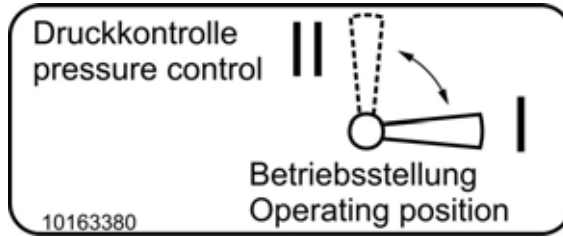
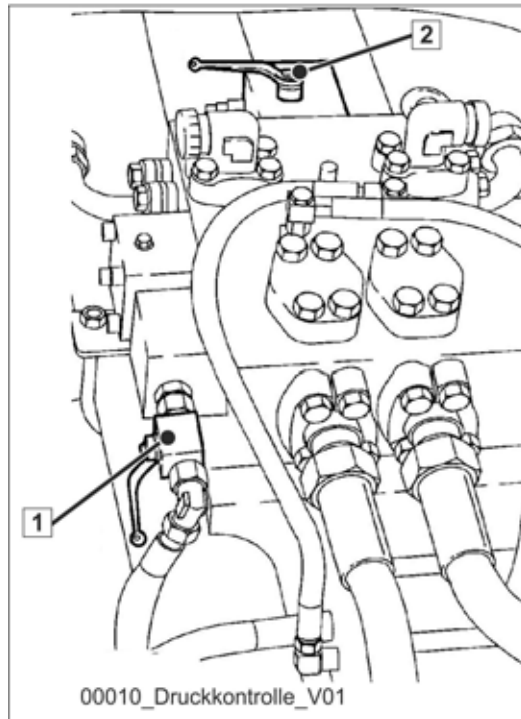

Fig. 288
Fig. 289
- Close the ball valve (1) (**Fig. 289**).
- For machines with MPS, set the ball valve (2) (**Fig. 289**) to position (II): Pressure check (**Fig. 288**).
Working operation is only permitted while ball valve (2) (Fig. 289) is in the operating position (I)!